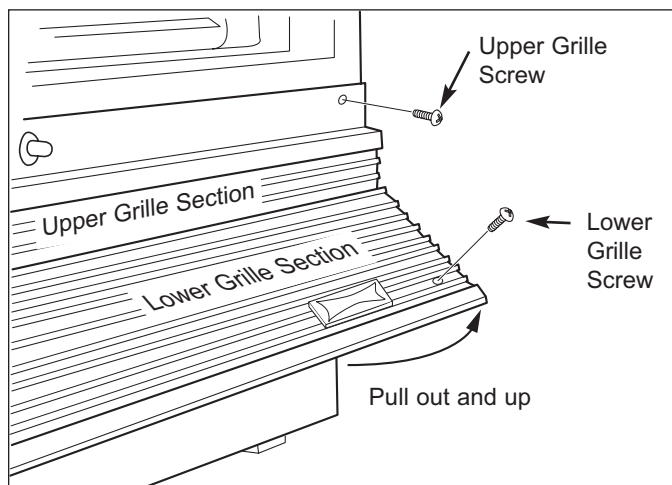

Figure 7-1. Louvered Grille
**Lower Grille Section Removal** - To remove lower grille section (See Figure 7-1):
**Upper Grille Section Removal** - To remove upper grille section (See Figure 7-1):